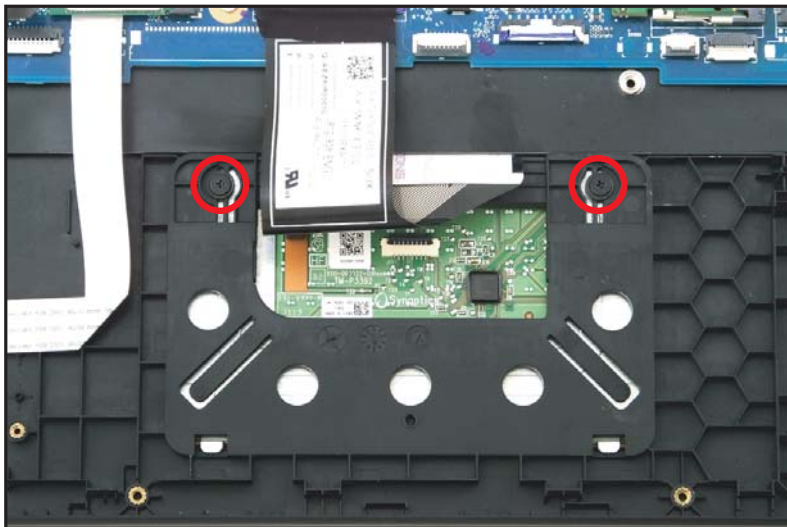

Figure 1-27. Touchpad Board Removal
4. Remove two screws securing the touchpad module in place (Figure 1-27).